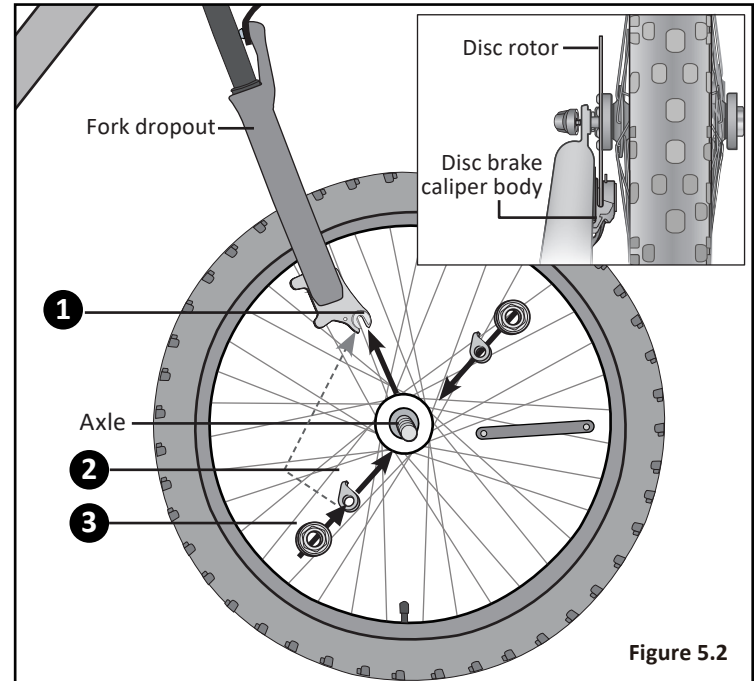

Figure 5.2
- 1 Place the front wheel into the fork openings. Be sure both sides of the axle rest on the fork and the wheel is centered **Figure 5.2**